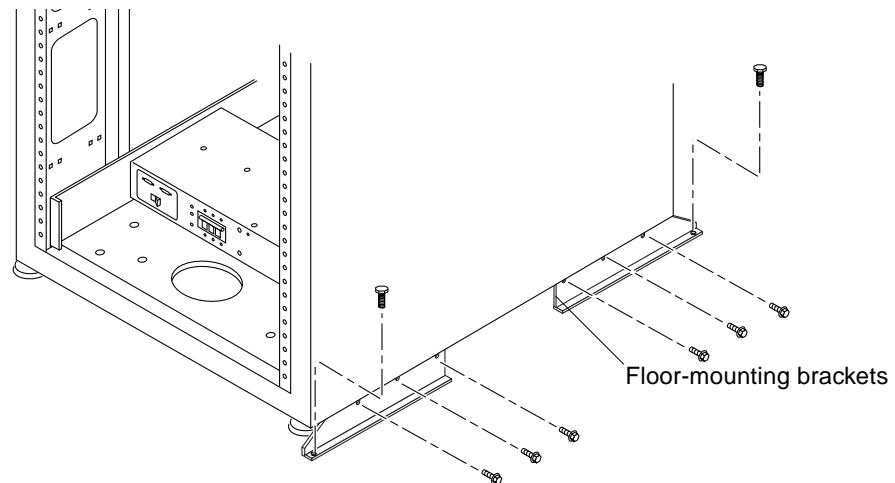

FIGURE 2-6 Attaching the Floor-mounting Brackets
2. Using a 7/16-inch wrench, attach the right floor-mounting brackets to the front and back of the storage system (FIGURE 2-6).